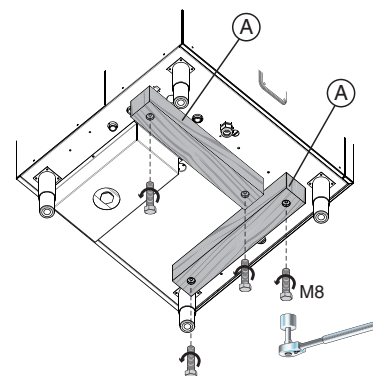

Figure 7 Removal of wooden spacers
- Remove the wooden spacers "A" on the appliance base by undoing the four M8 screws (see Figure 7).